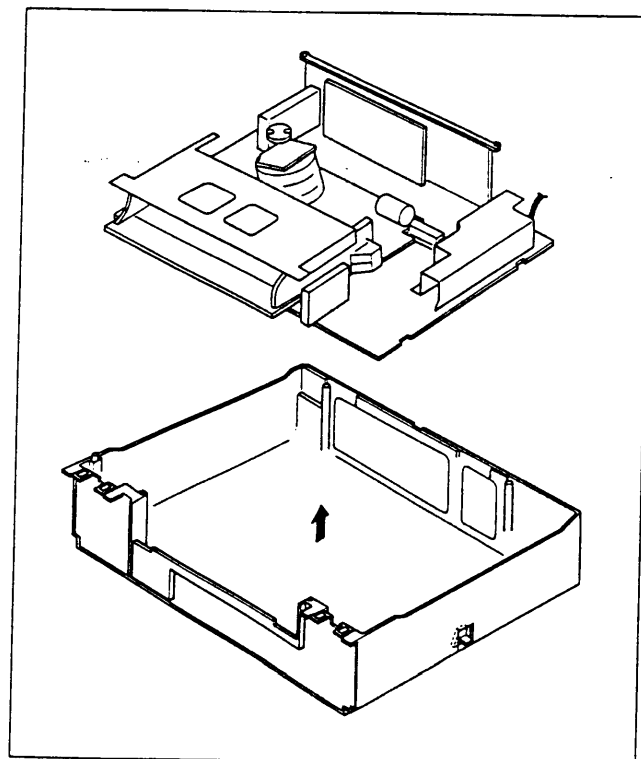

Fig. 1-5-2
- (3) Remove the Mechanism assy (including Cassette housing) and Main board assy out of the chassis as shown in Fig. 1-5-2.